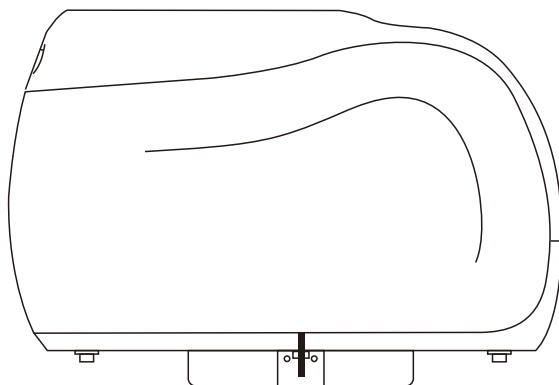

Figure 9 Schematic diagram of mark alignment during white calibration
2. During white calibration, the marking line on the instrument must be aligned with the box before calibration can be performed. As shown in Figure 9.